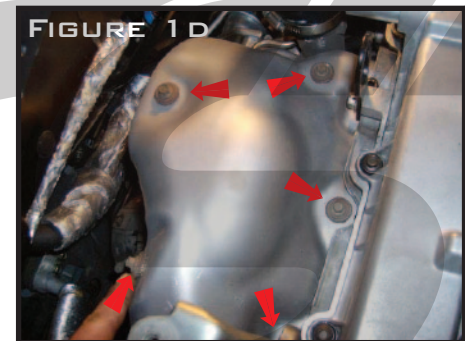

FIGURE 1D
D. APPLY PENETRATING OIL, ALLOWING TO SOAK FOR A FEW MINUTES AND REMOVE ALL FIVE 8MM HEX HEAD BOLTS FROM THE UPPER HEAT SHIELD ON THE EXHAUST MANIFOLD, MARKED WITH RED ARROWS ON FIGURE 1D. REMOVE THE HEAT SHIELD FROM THE VEHICLE.